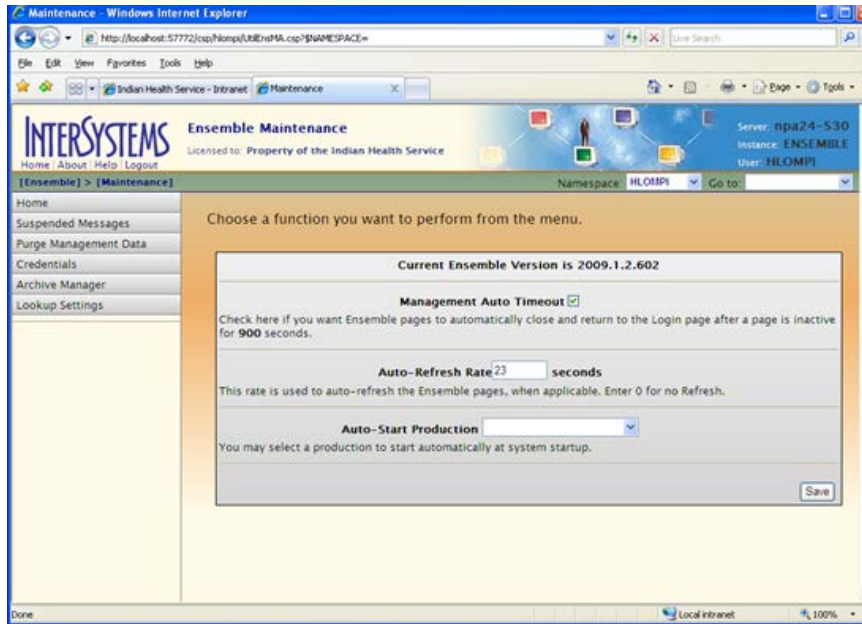

Figure 4-10: **Ensemble Maintenance** page
1. On the Ensemble Management Portal menu, click **Maintenance** to open the **Ensemble Maintenance** page, as shown in Figure 4-10.